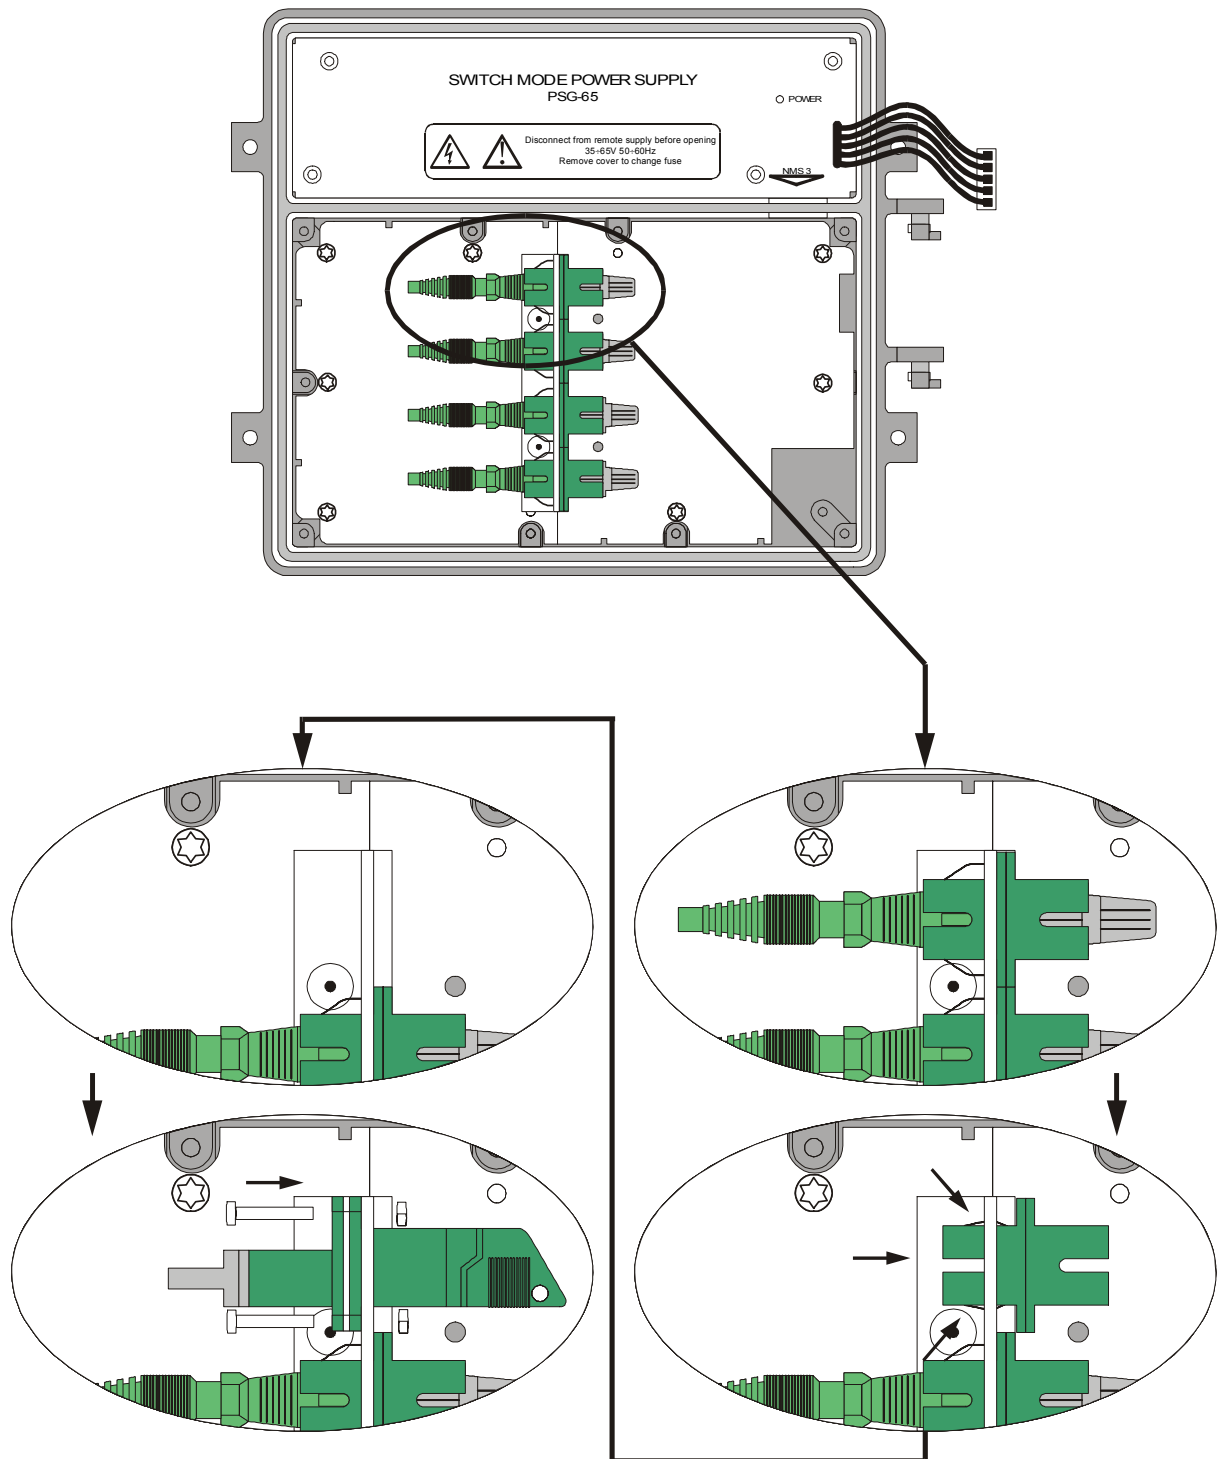

Fig. 27. Replacing the SC-APC/ SC-APC adapters with SC-APC/E-2000 adapters.
2. By pressing the springy plates that hold the adapter in the chassis (plates are marked with arrows on Fig. 27), take out the adapter from the chassis;
3. Put the SC-APC/E-2000 adapter into the chassis and mount it with provided screws, as shown on Fig. 27;